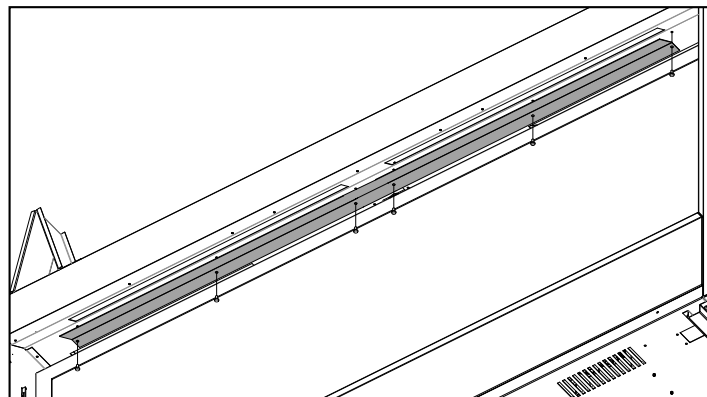
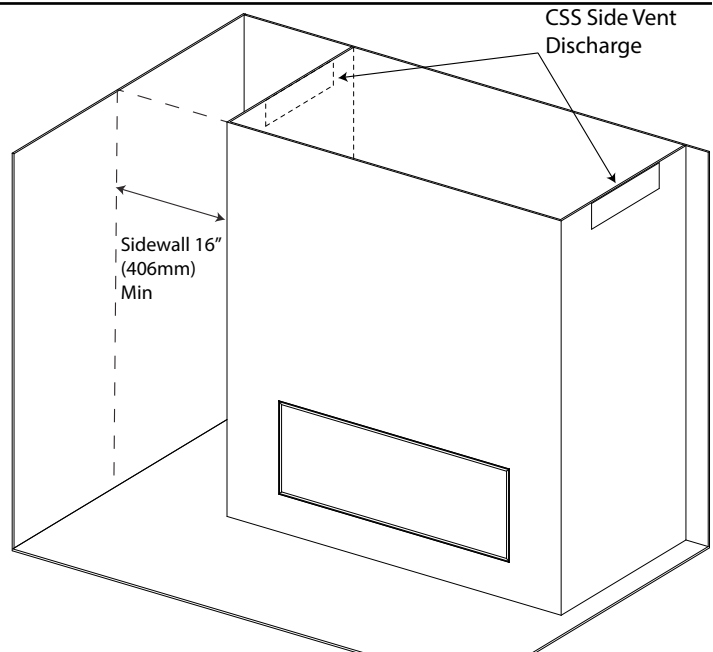

Figure 24: CSS cover removal
Figure 35: CSS Side Vent
5. Next, remove and **discard** the CSS cover on the inner top of the cabinet. It is attached with Torx T20 screws. (see Figure 24).
The framing can also be constructed in a way that provides two side vents as shown in Figure 35. The size of the side vents must provide a minimum area equal to the area provided by the front CSS discharge in Figure 24 (i.e. 2in x 77in = 154 in²).